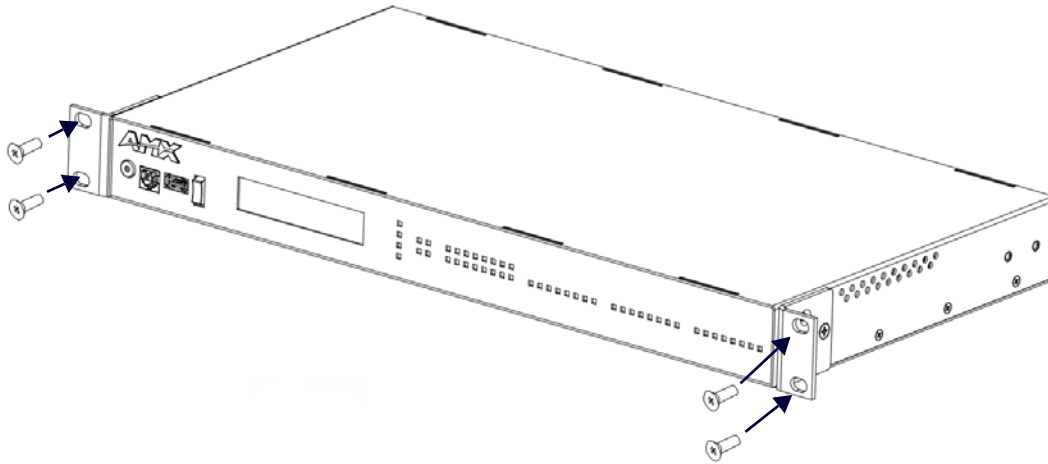

FIG. 6 Mounting Integrated Controller into an equipment rack
2. Slide the unit into the rack until the attachment holes, along both sides, align to their corresponding locations on the mounting brackets, as shown in FIG. 6.